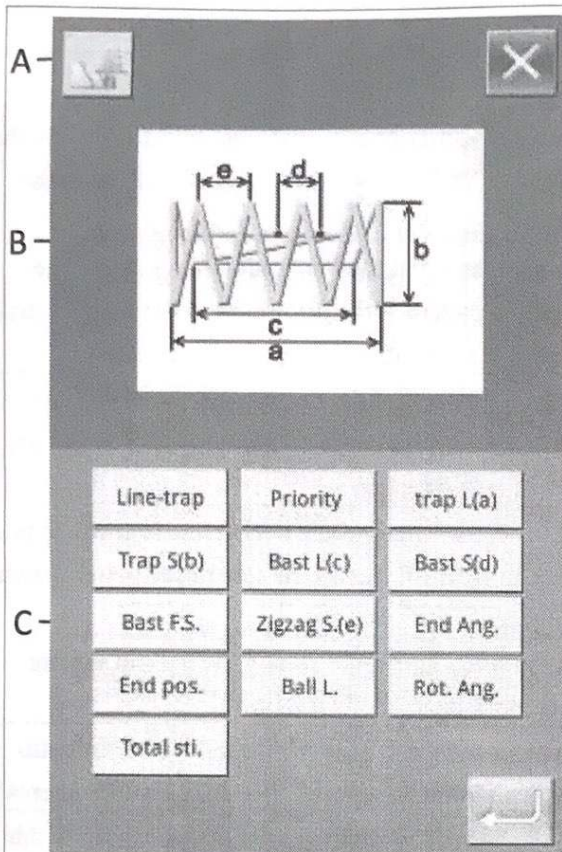

Figure 1
- The system will enter the linear knotting interface as default, as shown in figure 1.